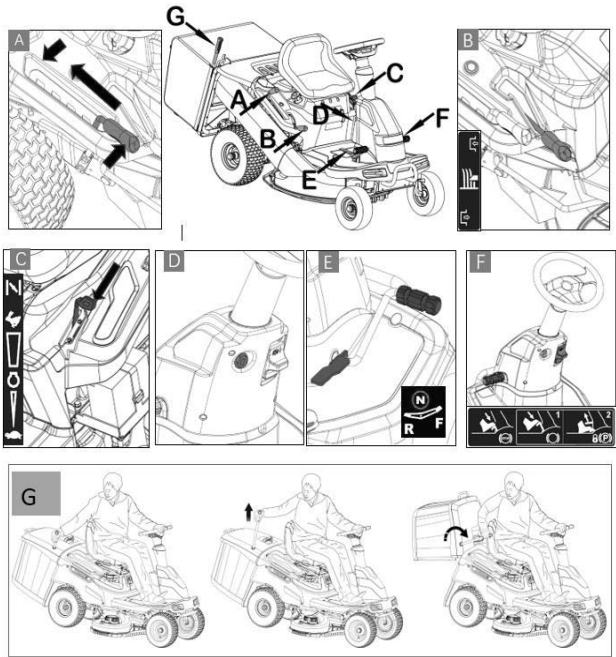
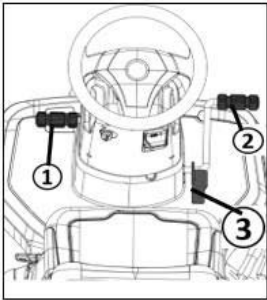

Figure 18
Figure 22
The ride on mower controls are described in the following, divided into components A, B, C, D, E, F and G (Figure 18).
Pushing the controller (Figure 18 C) increases or reduces the engine speed; in the uppermost position, it engages the choke.
Forwards	Press the front pedal (Figure 18 E, Figure 22 ②) to drive forwards.
Reverse	Press the rear pedal (Figure 18 E, Figure 22 ③) to drive backwards. Note: The speed is limited when the mowing mechanism is switched on. Mowing in reverse (see chapter 7.6.2 "Mowing in reverse")
1. Release the parking brake (Figure 18 F).
2. Select the direction of travel (Figure 18 E).